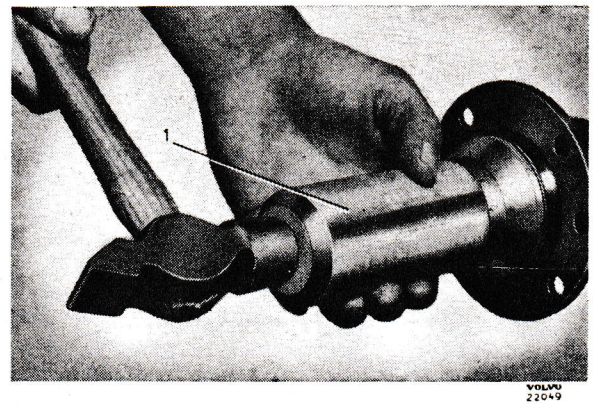

Fig. 30. Fitting the bearing race.
3. Pack in the bearings with heat-resistant grease. Fit the axle shaft in the rear axle housing. Drive in the bearing outer races with tool SVO 2205, see Fig. 30.